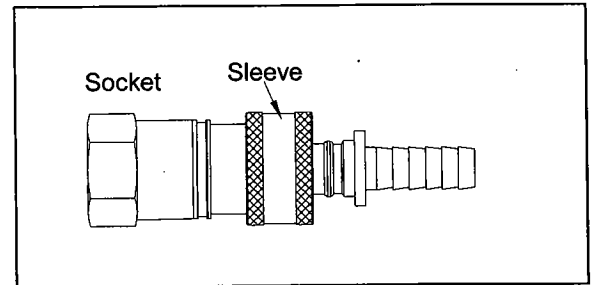

Fig. 40
2. Insert plug and release sleeve (Fig. 40).